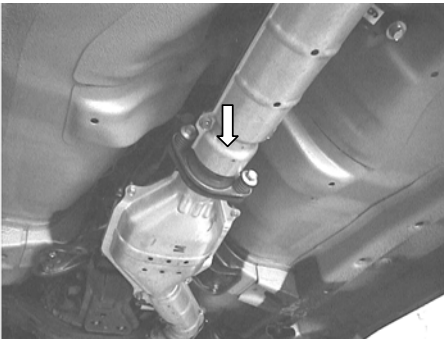

Figure 1
1. Unbolt flange shown in figure 1 just behind the catalytic converter. Place the hardware to the side for use during the installation of your new exhaust system.